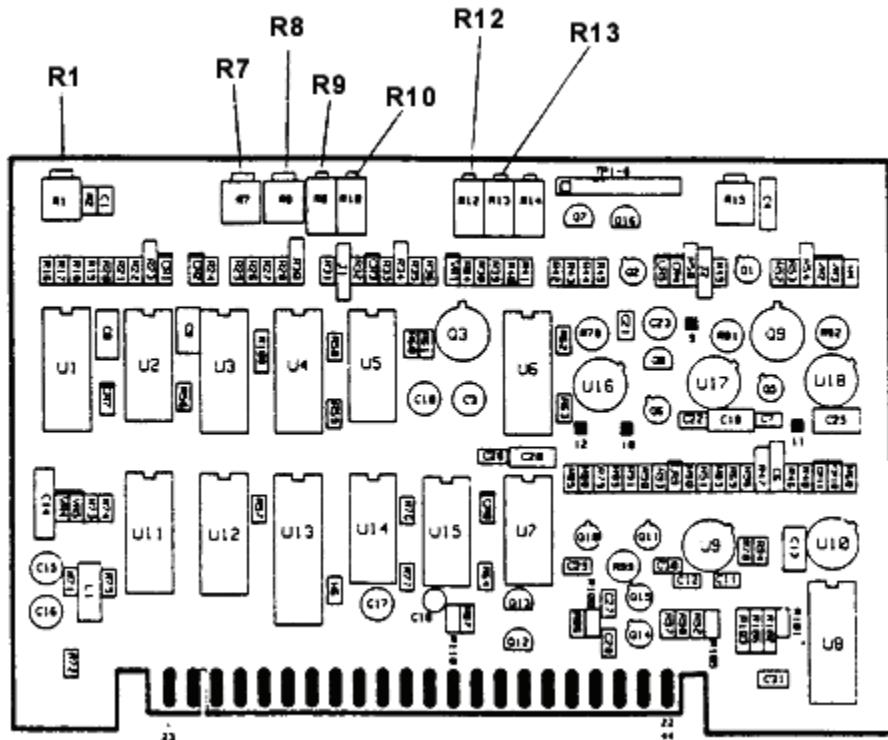

Figure 11. A4 board adjustment locations.
- (3) Connect power meter to RF OUTPUT. Record power meter indication.
- (4) Press RECALL key and enter data 2 on keyboard. Adjust A4R1 (fig. 11) for power meter indication of equal difference from -5 dBm as the value recorded in (3) above but in the opposite direction (example: if (3) above is -4.9 dBm then A4R1 is adjusted for -5.1 dBm) (R).
(5) Press **RECALL** key and enter data **1** on keyboard. Adjust A4R13 (fig. 11) for power meter indication of -5.0 dBm (R).
(6) Press **RECALL** key and enter data **4** on keyboard. Record power meter indication.
(7) Press **RECALL** key and enter data **3** on keyboard. Adjust A4R9 (fig. 11) for power meter indication of equal difference from +3 dBm as the value recorded in (6) above but in the opposite direction (R).
(8) Disconnect power meter from **RF OUTPUT**. Connect 10 dB attenuator to **RF OUTPUT** and connect power meter to attenuator.
(9) Press **RECALL** key and enter data **5** on keyboard. Add power meter indication to exact value of attenuator (at 50 MHz) and record.
(10) Press **RECALL** key and enter data **6** on keyboard. Adjust A4R7 (fig. 11) for power meter indication plus attenuator value (at 2.2 GHz) of equal difference from +10 dBm as the value recorded in (9) above but in the opposite direction (R).
(11) Press **RECALL** key and enter data **2** on keyboard. Record power meter indication.
(12) Adjust **FREQUENCY VERNIER** control to tune TI output frequency to the start of band 2 (approximately 2.5 GHz).
(13) Adjust A4R12 (fig. 11) for power meter indication equal to value recorded in (11) above (R).
(14) Press **RECALL** key and enter data of **3** on keyboard. Record power meter indication.
(15) Repeat (12) above.
(16) Adjust A4R10 (fig. 11) for power meter indication equal to value recorded in (14) above (R).
(17) Press **RECALL** key and enter data **6** on keyboard. Record power meter indication.
(18) Repeat (12) above.
(19) Adjust A4R8 (fig. 11) for power meter indication equal to value recorded in (17) above (R).
(20) Repeat (1) through (19) above until no further adjustment is required.
(21) Connect **SWEEP OUTPUT** to oscilloscope **CH2** input.
(22) Connect semiconductor device to **RF OUTPUT** and connect oscilloscope **CH1** input to semiconductor device.
(23) Press function keys and enter corresponding data on keyboard as listed in (a) through (e) below: